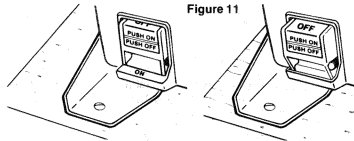

Figure 11
3. Turn the saw on by depressing switch button shown in Figure 11. The button will stay in when released. Let the saw run for about 10 seconds. Turn the saw off by depressing and releasing the switch button shown in Figure 11.